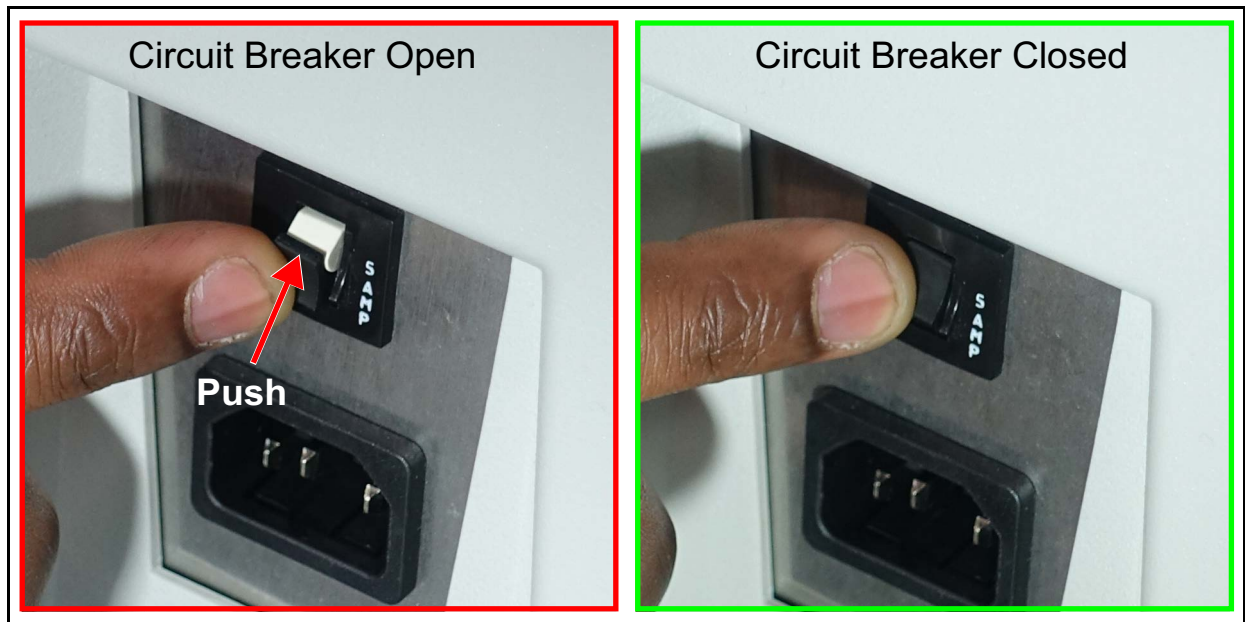

Figure 4-10: Closing the circuit breaker
2. Unplug the power cord and push the circuit breaker toward the OM410 to close it (Figure 4-10).